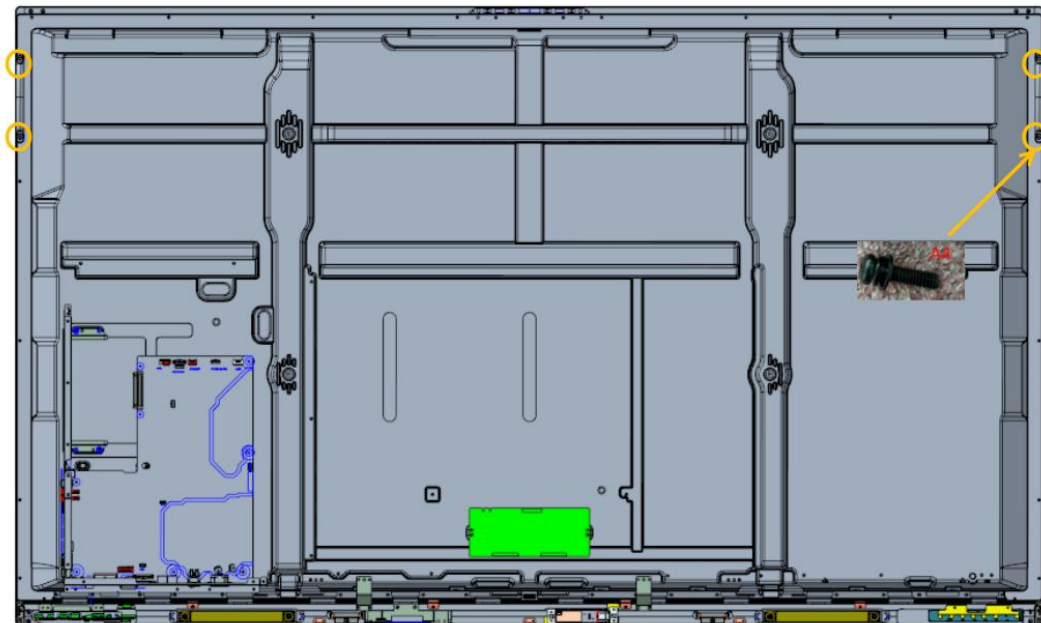

Figure 8
STEP 5: Continue to use an electric screwdriver and M4 adapter to remove all screws corresponding to the red circles in the Figure 8.